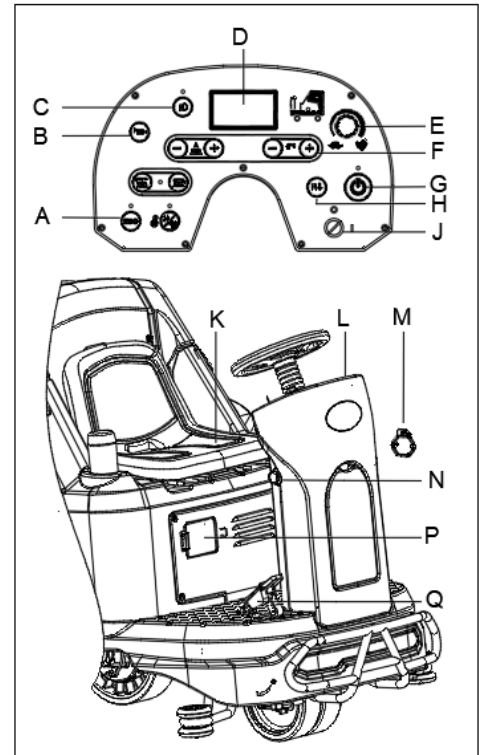

Figure 13
2. Sit on the seat (K Figure13), insert the Ignition key (J Figure13) and turn it to "I". Check batteries status from display screen. If necessary to charge the batteries (see the procedure in Maintenance chapter).
The forward/reverse direction can be controlled with the switch (H Figure13). The speed can be adjusted with the adjuster (E Figure13).
4. Press One-Start button (G, Figure13) to start the machine, the squeegee and brushes are lowered to the floor automatically, and the vacuum motor begins to work.
5. Press the solution flow control buttons (F, Figure13) as necessary, depending on the type of cleaning to be performed.
6. Depress the accelerator pedal (Q Figure13), and start cleaning.
7. You can charge your phone or pad through USB charging port (M Figure13) when the Ignition key (J Figure13) is turned to "I".
8. Press the horn button (B Figure13) to warn people when necessary.
9. If necessary, press the emergency button (N Figure13) for machine emergency stop.
10. If necessary, press the front lights button (C Figure13) for dark areas or to warn pedestrians.
11. If necessary, adjust the seat (K Figure13) by turning right the handle on the right of seat, then slide the seat to proper position.
The brush motor, vacuum motor, drive motor and control circuit are protected by overload protector (P Figure13). When an overload protector trips, do not reset it immediately without finding out the root cause, and make sure the motor has cooled before reset.
12. Release the accelerator pedal (Q Figure13), the machine stops running.
13. Press One-Start button (G Figure13) to stop brushes and vacuum motor. The brushes and squeegee are lifted from the floor automatically. The vacuum system will turn off after a few seconds.